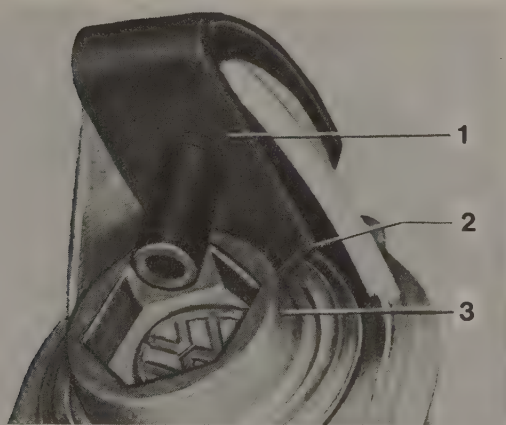

Fig. 5-3. Rubber washer and rubber grommet correctly installed. Rubber washer 1 is fitted with lip 2 parallel to selector shaft cover 3 to protect vent.
5. Position the rubber washer and the rubber grommet as shown in Fig. 5-3.